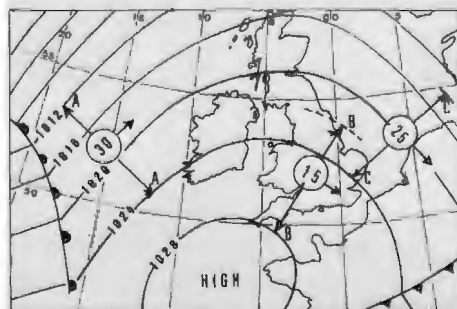

Fig 1. Measuring the geostrophic wind.
1. Obtaining the geostrophic wind: Cross-country prospects depend on the winds being fairly light; speeds of 30kt have not prevented good races but most successful days had winds of less than 16kt. The forecast charts are nearly always accurate enough to predict the geostrophic wind within 5kt. Fig 1 shows some examples.
(b) A simple system is to see how many pairs of isobars the scale crosses. In Fig 1 the line A-A west of Ireland spans three isobars; multiplied by ten this gives a 30kt wind. The line B-B across the Midlands of England spans one and a half pairs of isobars. The wind there can be taken as 10 x 1.5 or 15kt. Over the North Sea the line C-C spans two and a half isobars so there the speed should be 25kt. This convenient method only works in our latitude. In other latitudes different conversion factors are needed.